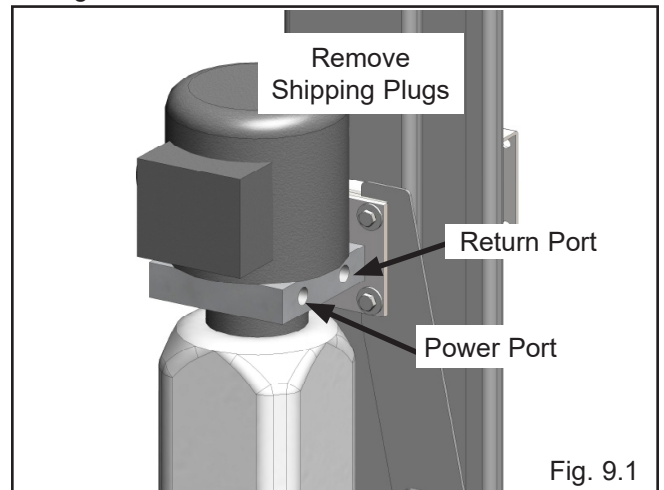

Fig. 9.1
1. Install the 90-degree Hydraulic Fitting to the POWER PORT and the 90° Air Line Compression Fitting to the RETURN PORT of the Power Unit and connect the Hoses as described below. It will be necessary to remove the shipping plugs from both ports prior to installing the Fittings. On the pipe thread side of the fitting it is recommended to use Teflon tape or pipe sealer. **DO NOT USE TEFLON TAPE** on the JIC flared end. It will be necessary to remove the shipping plugs from both ports prior to installing the fittings. (See Fig. 9.1 -9.2)